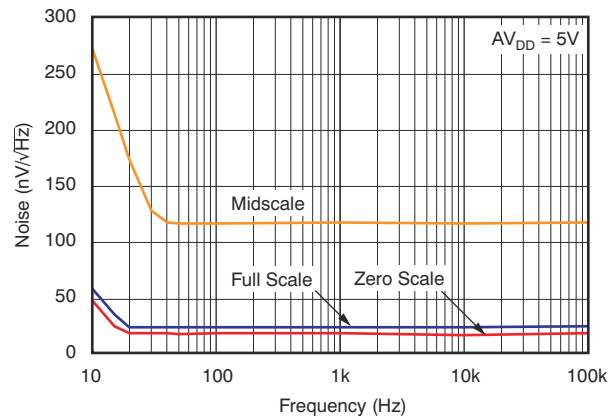

图 7-23. DAC Output Noise Density vs Frequency
(1) Linearity calculated using a reduced code range of 3 to 252 for 8-bit, 12 to 1012 for 10bit, and 30 to 4050 for 12-bit, output unloaded.
(2) Straight line passing through codes 3 and 252 for 8-bit, 12 and 1012 for 10-bit, and 30 and 4050 for 12-bit, output unloaded.
(3) Specified by design and characterization, not production tested.
(4) For more details, see Figure 7-23.